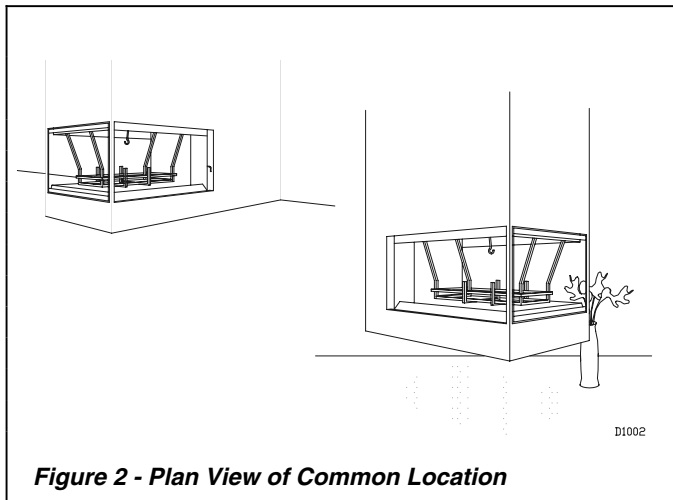

Figure 2 - Plan View of Common Location
1. The location must allow for all the proper clearances (see Figure 2).